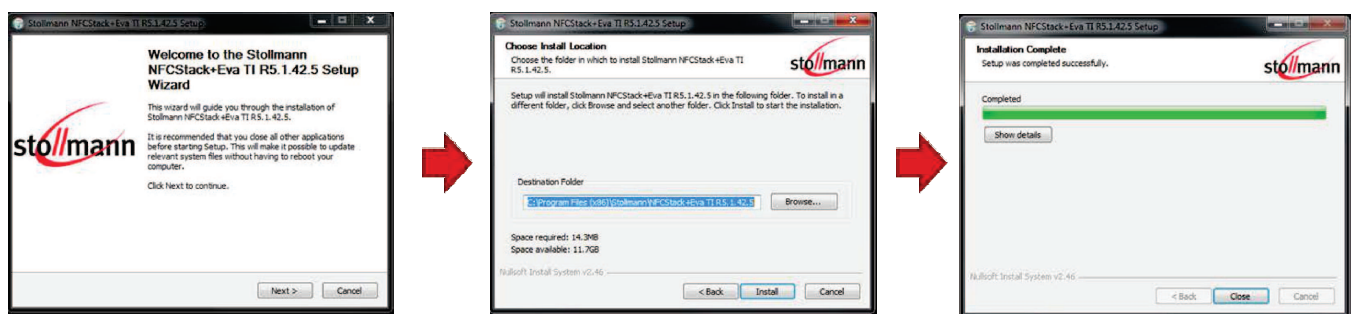

Figure 19.
2. Follow the instructions of the installer, as shown in Figure 19.